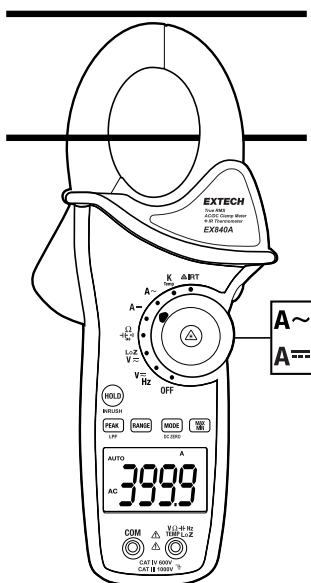

Figure 5.1 Current Clamp measurements. Clamp only one conductor, as shown.
2. Press the trigger to open jaw. Fully enclose only **one** conductor as shown in Figure 5.1.